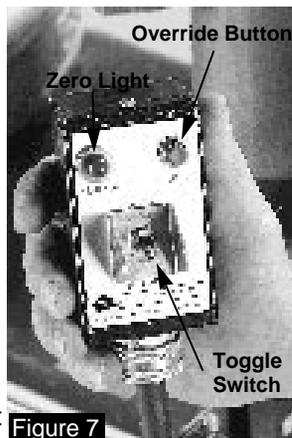

Figure 7
3. Check the bending shoe to be sure the correct grooves for the conduit being bent are facing toward the operator. If the shoe must be rotated, hold the pendant control toggle switch in "Return" and press the override button until the zero light goes out. The shoe will rotate 180° then stop in the load position (figure 7).